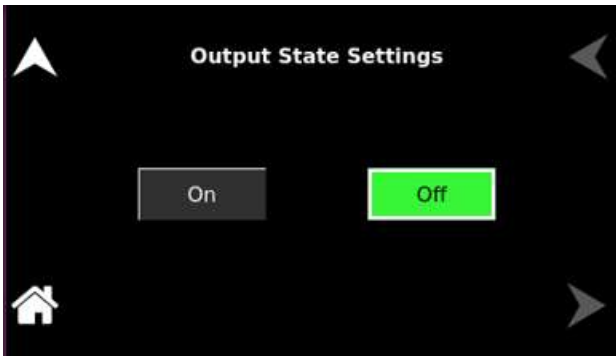

Figure 10-35. Output State
**Output State**      Users can program the output to ON or OFF state. Refer to Figure 10-35.